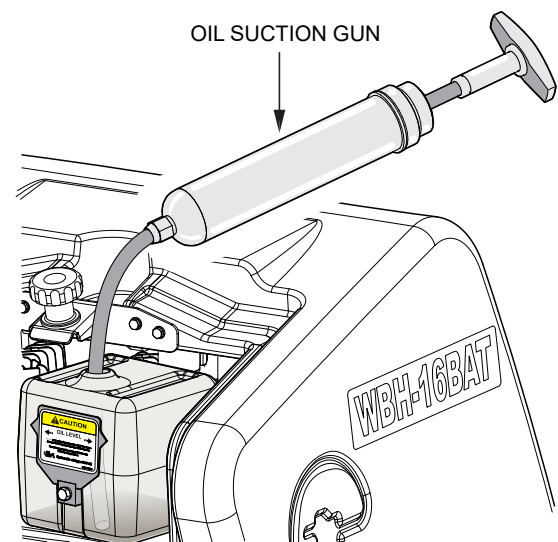

**Figure 22. Hydraulic Oil Fill**
3. If the hydraulic oil level is low, fill to the proper level with type ISO 68 oil (Figure 22).